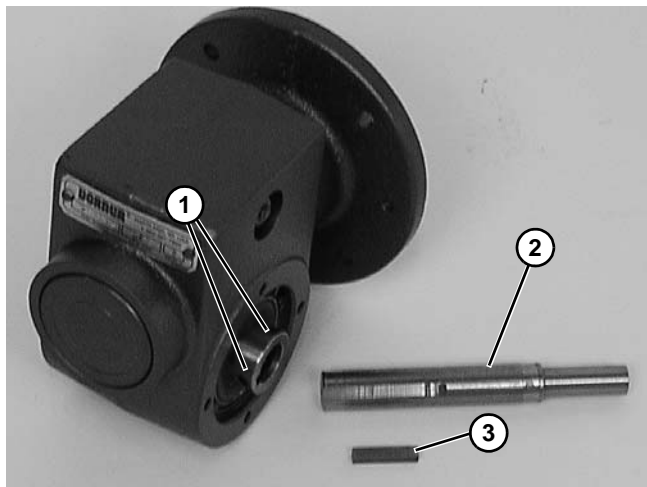

**Figure 37**
5. Remove four screws (**Figure 37, item 1**). Detach motor (**Figure 37, item 2**) from gear reducer (**Figure 37, item 3**). Retain motor output shaft key (**Figure 37, item 4**).
6. Remove two (2) screws (**Figure 37, item 5**) and detach output shaft cover (**Figure 37, item 6**).
7. Remove gear reducer output shaft key (**Figure 37, item 7**).
- Apply anti-seize to motor shaft before assembling to gearbox. With key (**Figure 37, item 4**) in keyway, slide motor (**Figure 37, item 2**) and gear reducer (**Figure 37, item 3**) together. Install screws (**Figure 37, item 1**) and tighten.